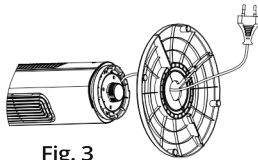

Fig. 3
3. Gently thread the power cable from the main unit through the hole in middle of the base (Fig 3).